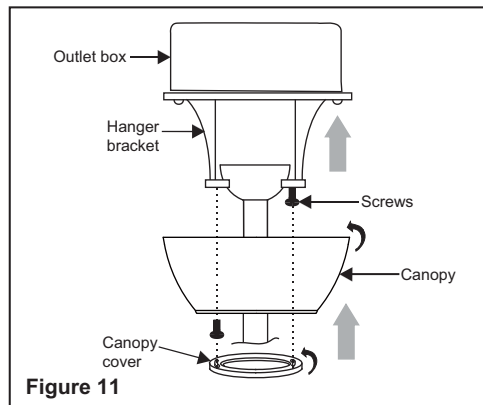

Figure 11
**Step 2.** Slide the canopy up to mounting bracket and place the key hole on the canopy over the screw on the mounting bracket, turn canopy until it locks in place at the narrow section of the key holes. (Fig. 11)